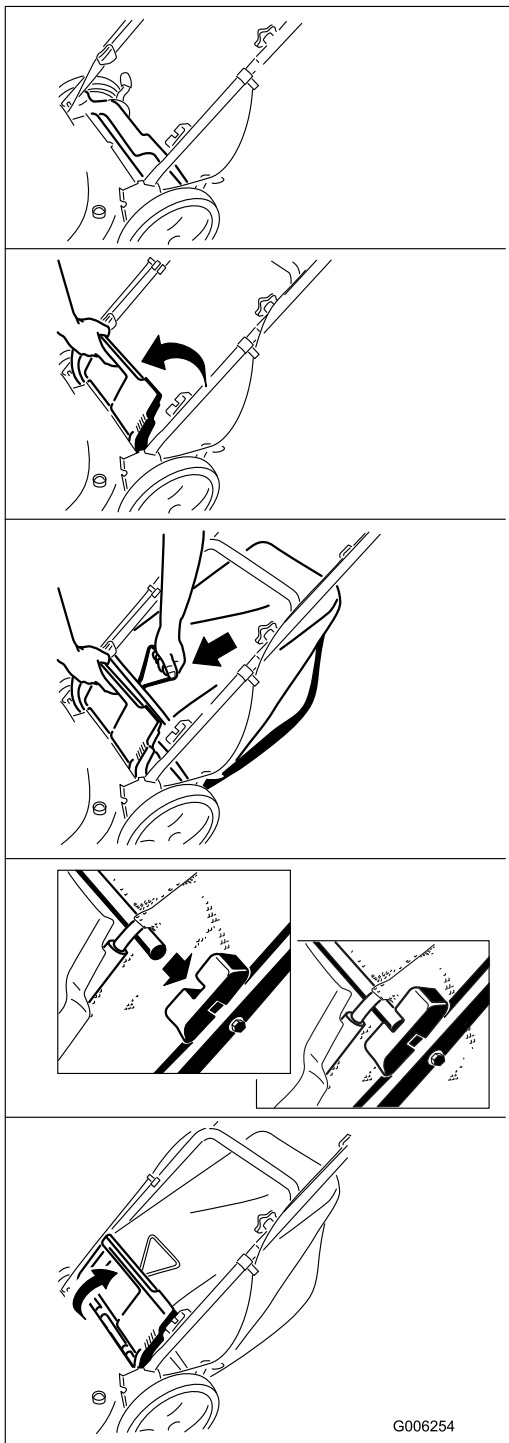

Figure 16
2. Install the grass bag (Figure 16).